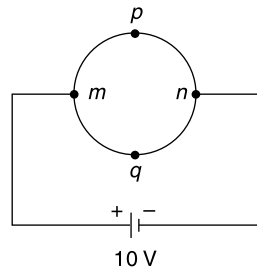

Fig. 1.12
14. A wire of resistance $20 \, \Omega$ is bent to form a complete round loop. Find the amount of heat it will generate if a voltage of 10 V is applied at diametrical opposite points $m - n$ in the loop (Fig. 1.12). (Ans: 20 W)